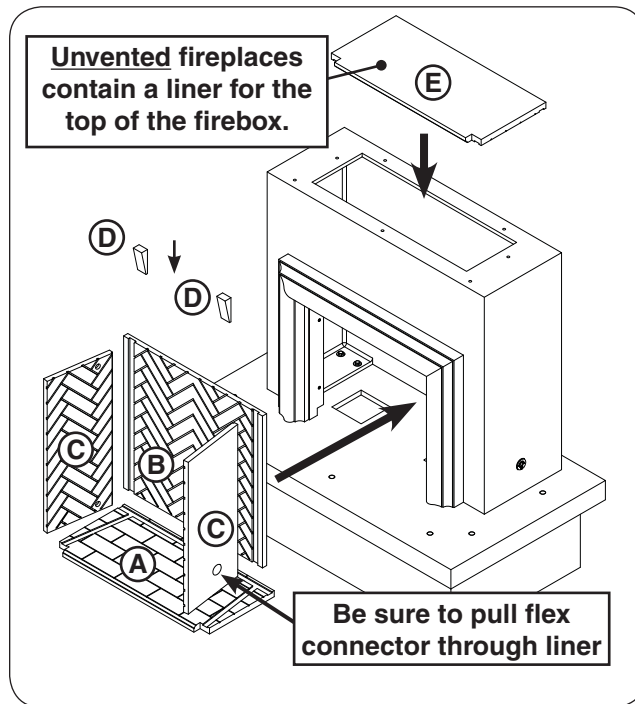

Fig. 17-1 Install firebox liners
1. Install the firebox liners into the interior of the firebox in the order shown in Fig. 17-1.